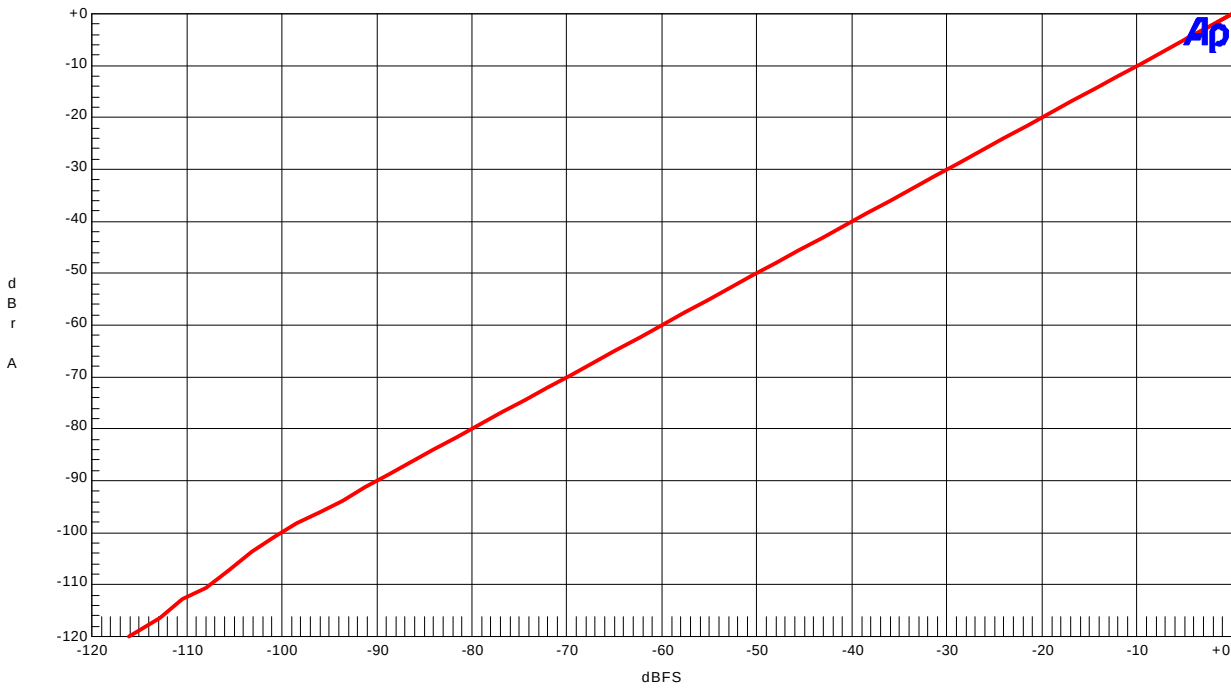

Figure32. Linearity (fin=1kHz)
- Figure32. Linearity (fin=1kHz)